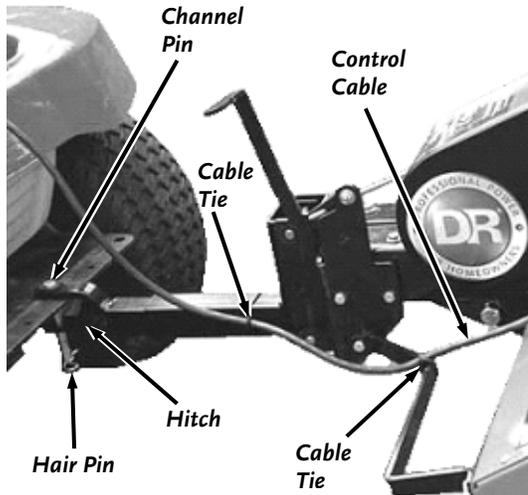

Figure 9
- Remove the Hair Pin and Channel Pin from the Hitch on the DR ROTO-HOG Power Tiller (**Figure 9**). Position the Hitch onto the Tow Vehicle and reinstall the Channel Pin and Hair Pin.